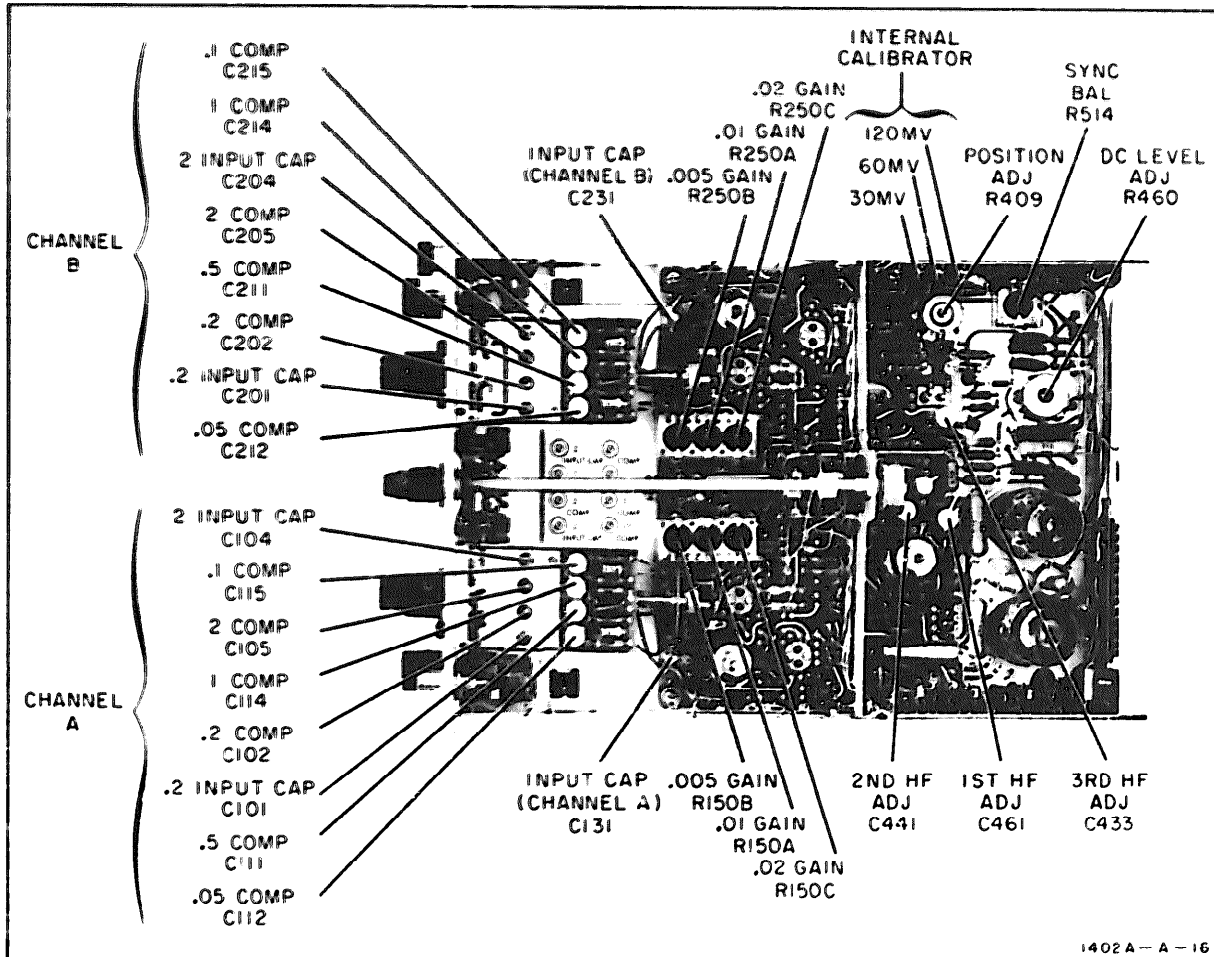

Figure 2-12. Location of Adjustments
**a. EQUIPMENT NEEDED FOR ADJUSTMENTS.** Test equipment recommended for the adjustment procedure is listed in Table 2-2, items 3 through 7. Similar instruments having the listed characteristics may be substituted.
**b. LOCATION OF ADJUSTMENTS.** Figure 2-12 shows the location of all internal adjustments in the Model 1402A.